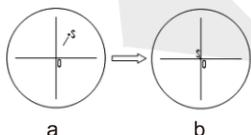

Fig. 14
(1) Loosen the fastening screws 1 of the photography output terminal, and remove the dust-proof cap.
(2) Mount the photography device on the output terminal, then tighten the fastening screws again.
(3) Turn the 10X objective into the light path.
(4) Push the push-pull rod 4 in and focus to make micro-image clear.
(5) Push the push-pull rod 4 out to see whether the image with photography clear. If unclear, adjust the fine focusing control knob to make the image clear.
(6) If there is strict synchronization requirement for eyepieces and photographic images (consistency between the center and direction of the image), a synchronization adjustment will be necessary as follows:
a. Push in push-pull rod, observe with eyepieces. Find a feature point in the field of view (a readily identifiable target, such as S point in Fig. 14-a), move it to the center of the field of view. If there is a division eyepiece, move the target to the reticle intersection of the division eyepiece, as shown in Fig. 14-b.